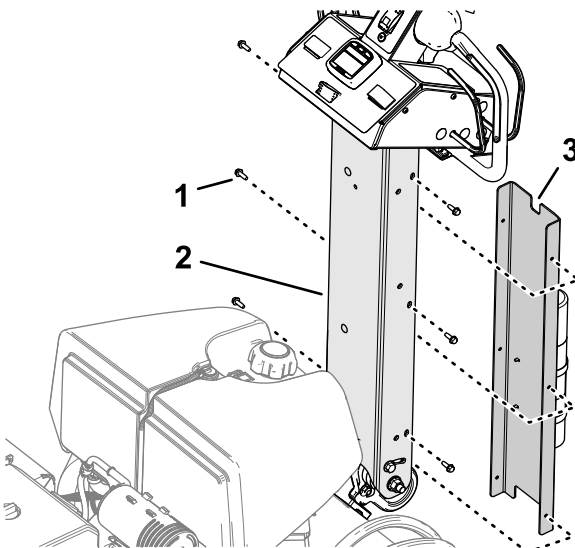

Figure 12
1. Align the small notch in the handlebar cover with the notch up (Figure 12).